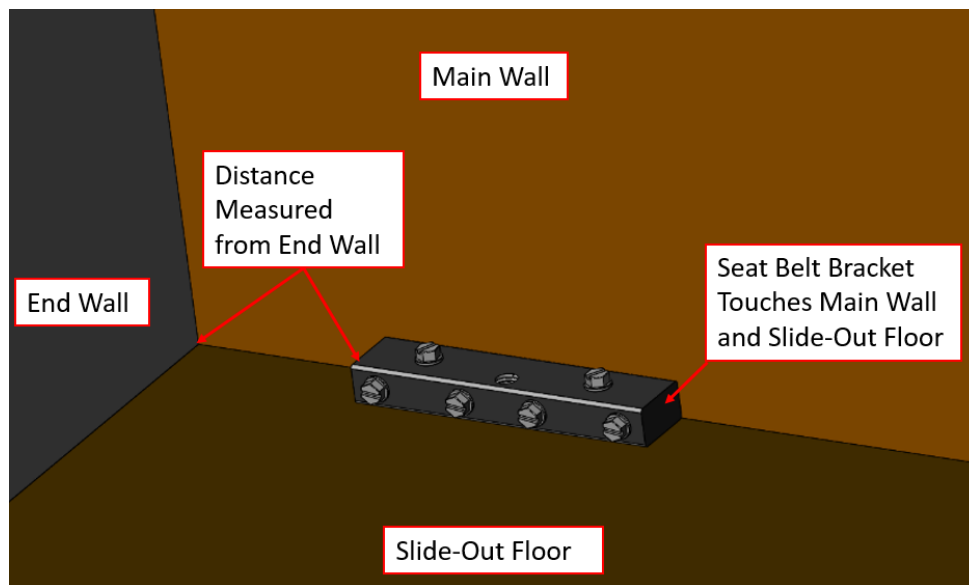
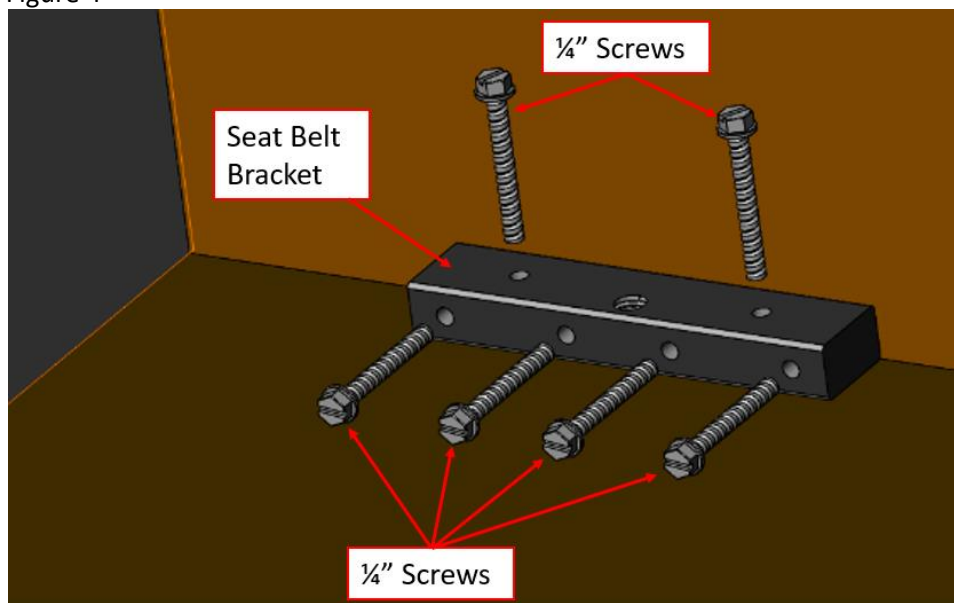

Figure 4
Figure 5
5. If there is not a bracket in a location specified by the drawing, then a bracket needs to be installed. Install bracket part # 5077887 in location according to the drawing (Figure 4). Attach the bracket to the slide-out floor by pressing the bracket toward the main wall and inserting two 2" x ¼" screws through the holes in the top of the bracket. Then attach the bracket to the main wall by inserting four 2" x ¼" screws through the holes on the side of the bracket (Figure 5). Make sure no two brackets are closer than 6 inches apart